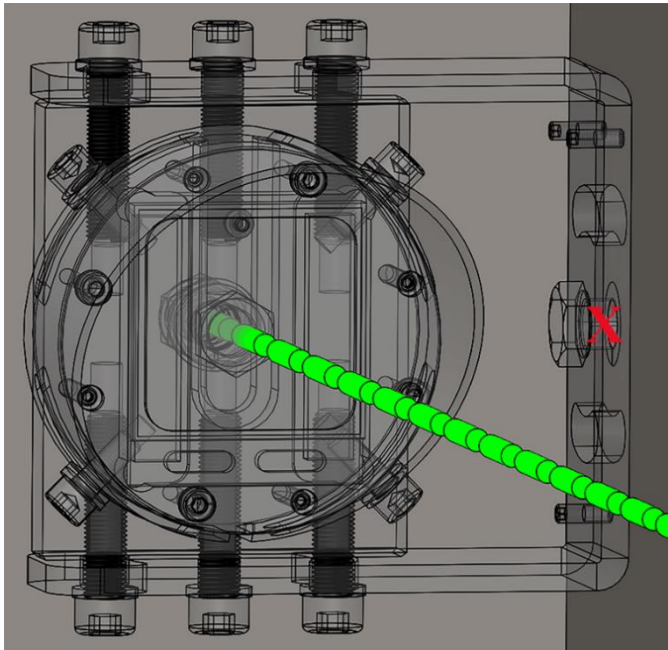
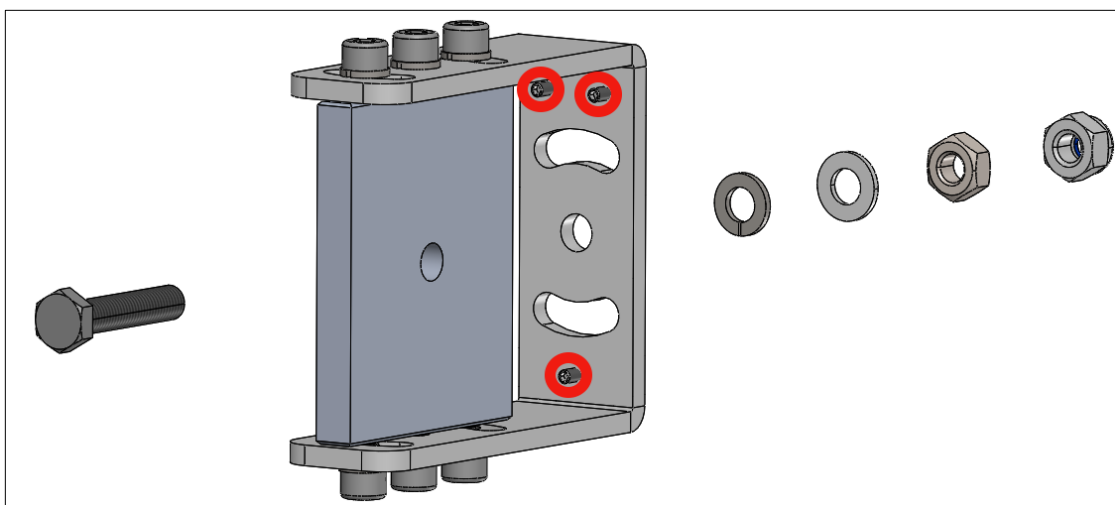
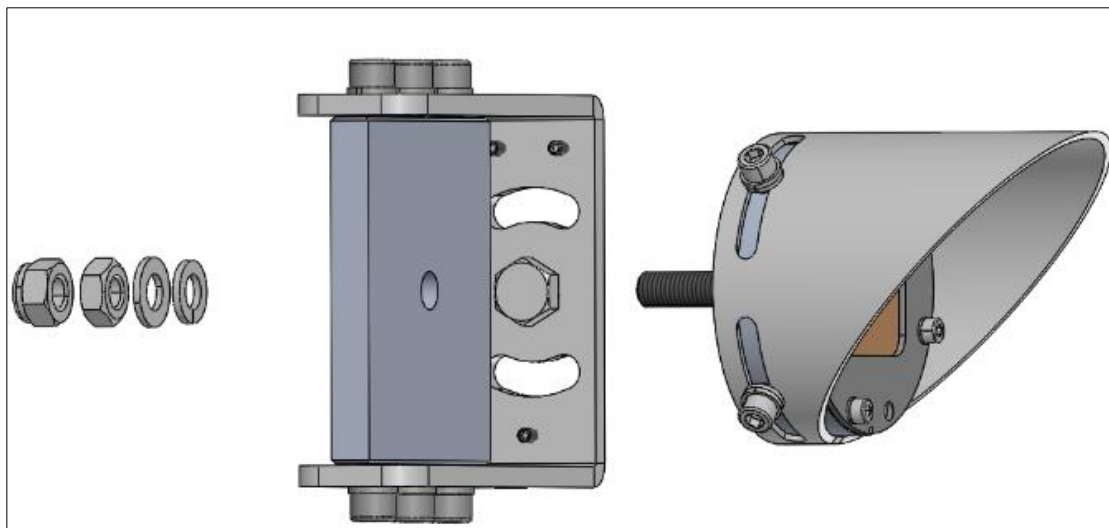
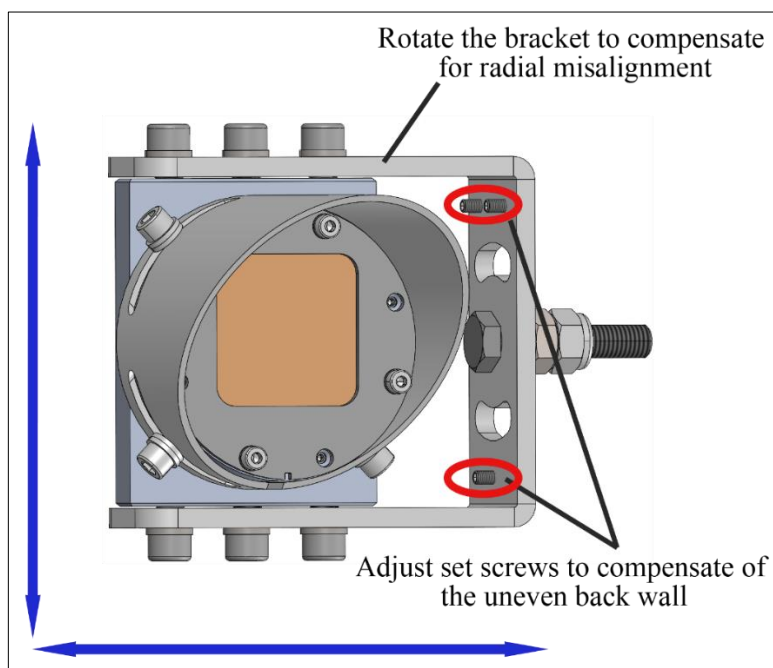

Figure 5-8: Drill a Hole at the Marked Spot – Optional Side Mount
Figure 5-9: Mount the Bracket Assembly – Optional Side Mount
Figure 5-11: Mount the Reflector – with Optional Side Mount
Figure 5-13: Adjust the Alignment – Optional Side Mount
Optional Side Mount	Refer to Figure 5-8, Figure 5-9, Figure 5-11, Figure 5-13
- For optional side mount: Position the side mount a minimum of 50 mm away from the back wall to allow for adjustments. Check that the beam of light hits the center of the reflector. If this is not the case, then redo the transceiver alignment so that the laser hits the center of the side mount hole marked on (Figure 5-8). Once aligned mark the center hole of the side mount bracket with an X (Figure 5-8).
- For optional side mount: Mount the bracket assembly using the M10 bolt, nuts and washers (Figure 5-9).
It is possible to rotate the bracket to compensate for radial misalignment. Once in position, carefully lock the position between the bracket and the hotbox structure by means of the 3 pcs. set screws (Figure 5-9).
- For optional side mount: Mount the reflector in the same way following (Figure 5-11).
- For optional side mount: Fine adjust the position of the reflector by means of the sliding function between the M10 bolt and the housing and/or the adjusting function on the side mount – Figure 5-13. Ensure that the light beam hits the exact center of the reflective area refer to section 7.2.